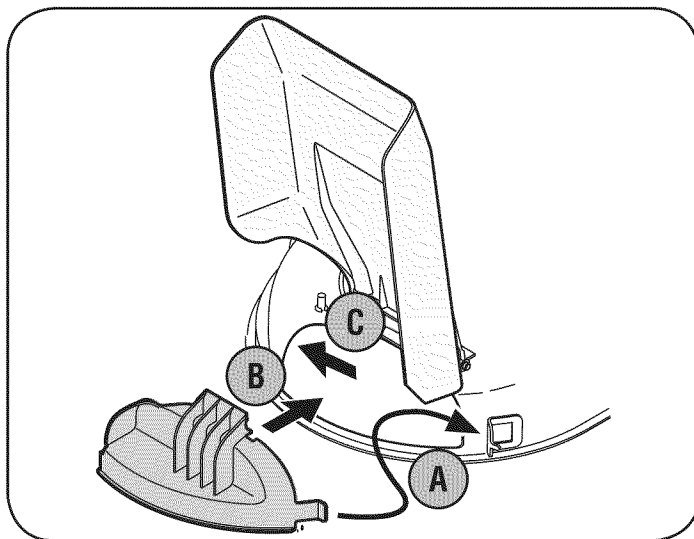

Figure 12
1. Insert the right-side tab (A) of the baffle into the bracket on the deck. See Figure 12.
2. Insert the mulch baffle into the discharge opening (B). See Figure 12.
3. Once it's positioned in the deck opening, push the baffle towards the rear of the mower (C) to secure it in place. See Figure 12.